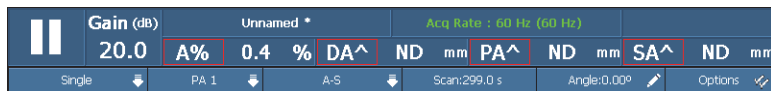

Figure 2-6 The acquisition parameters
- To start or pause the acquisition, tap the Play/Pause button (see Figure 2-6 on page 43, on the left).